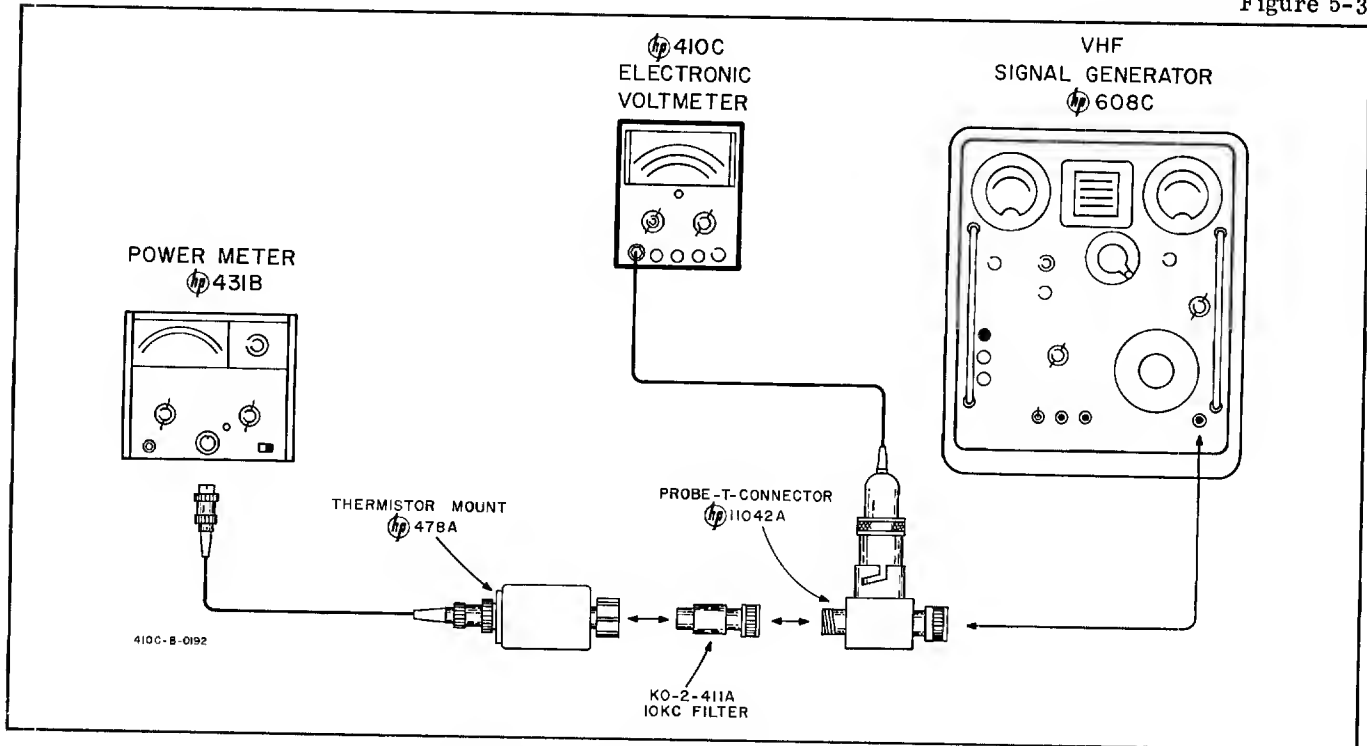

Figure 5-3. High Frequency Response Test
- a. Figure 5-3 describes the test arrangement required for this operation. Do not place Model 410C AC Probe in T-Connector at this point.
- A Frequency Response Test Set (hp Model 739AR), a Test Oscillator (hp Model 651A), an RF Signal Generator (hp Model 608C), a Power Meter (hp Model 431B), a Thermistor Mount (hp Model 478A), a Probe-T-Connector (hp Model 11042A), a VHF Signal Generator (hp Model 612A) and a 10 KC Filter (hp Model K02-411A) will be required for this operation. Figure 5-3 and 5-4 describe the arrangement to be used.
h. To check Model 410C frequency response from 10 Mc to 480 Mc, use arrangement described in Figure 5-3.